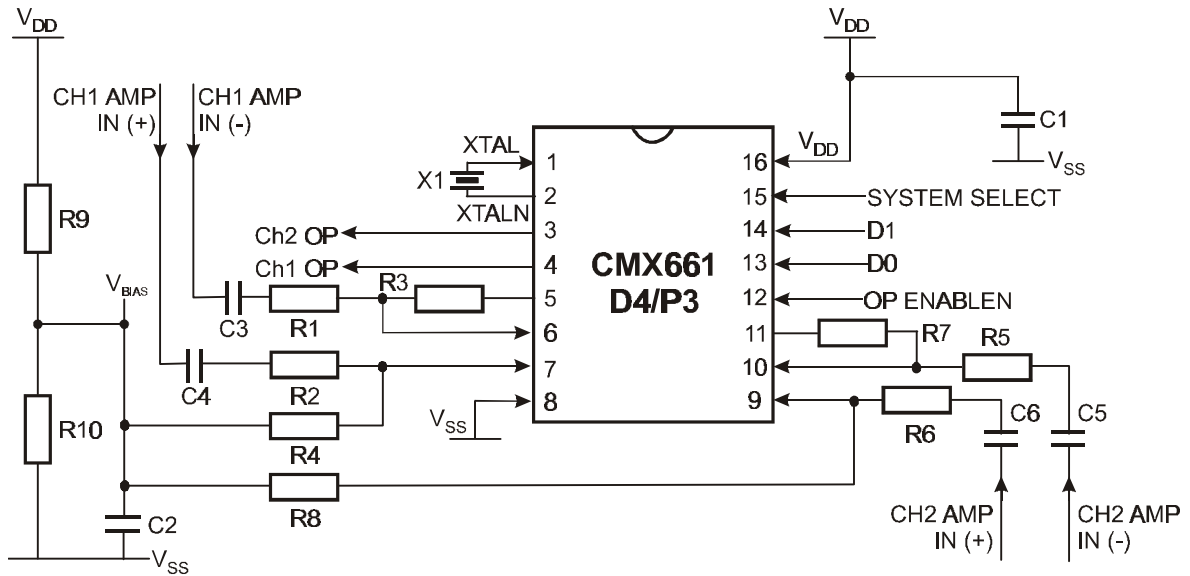
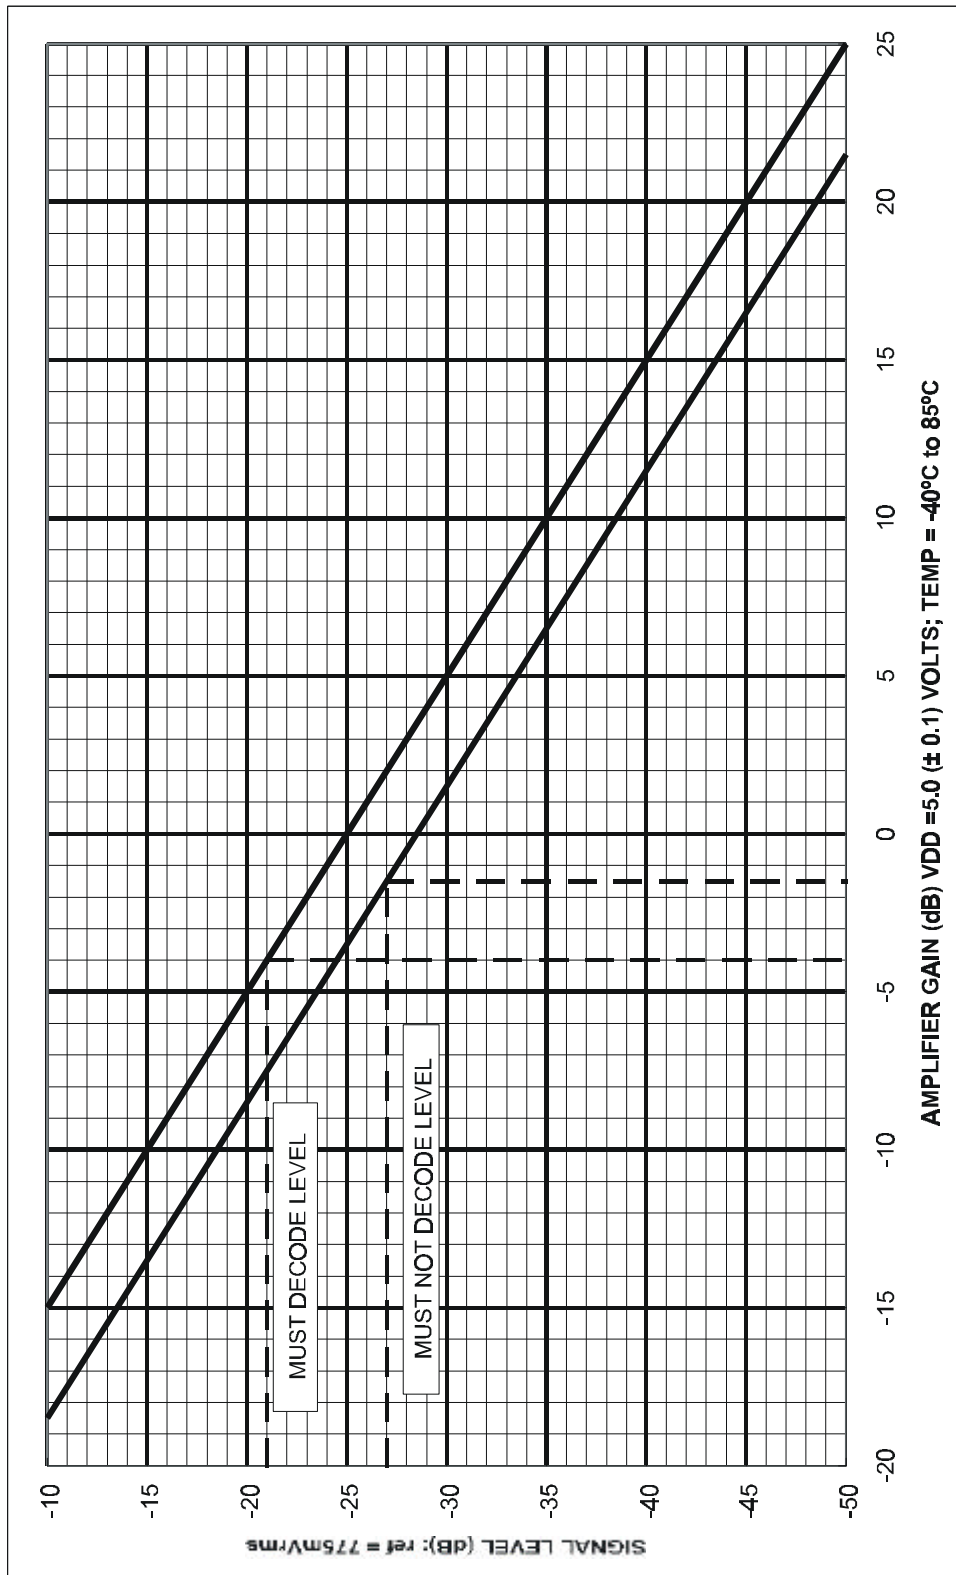

Figure 2 Typical External Components
Figure 5 Input Gain Calculation Graph
| 5          | 5          | CH1 AMP OUT     | O/P   | The output of the Channel 1 input amplifier. See Figures 2 and 3.   |
| 6          | 6          | CH1 AMP IN (-)  | I/P   | The negative input to the Channel 1 input amplifier. See Figures 2 and 3.   |
| 7          | 7          | CH1 AMP IN (+)  | I/P   | The positive input to the Channel 1 Input amplifier. See Figures 2 and 3.   |
| 9          | 9          | CH2 AMP IN (+)  | I/P   | The positive input to the Channel 2 input amplifier. See Figures 2 and 3.   |
| 10         | 10         | CH2 AMP IN (-)  | I/P   | The negative input to the Channel 2 input amplifier. See Figures 2 and 3.   |
| 11         | 11         | CH2 AMP OUT     | O/P   | The output of the Channel 2 input amplifier. See Figures 2 and 3.   |
The input signals are applied to the CMX661 via these amplifiers, which use the external components shown in Figure 2. The external gain setting components should be calculated by the method described in section 1.6.4, using the values obtained from Figure 5.
The sensitivity of each channel is set by correct selection of external components around each channel input amplifier. See section 1.6.4 and Figure 5 for a method of selecting amplifier gain and components to meet a particular sensitivity requirement.
*Input Gain Calculation:* The input amplifiers, with their external circuitry, are available to set the sensitivity of the CMX661 to conform to the user's national level specification with regard to 'Must' and 'Must-Not' decode signal levels. With reference to the graph in Figure 5, the following steps will assist in the determination of the required gain/attenuation.
Refer to the gain components shown in Figure 2. The user should calculate and select external components (R1/R3/C3, R2/R4/C4 and R5/R7/C5, R6/R8/C6) to provide amplifier gains within the limits obtained in Steps 2 and 3.
Note that the device sensitivity is directly proportional to the applied power supply ( $V_{DD}$ ). The graph in Figure 5 is for the calculation of input gain components for the CMX661 using a  $V_{DD}$  of 5.0 ( $\pm 0.1$ ) volts. Subtract 4.44dB from the amplifier gain for operation at 3.0V volts.